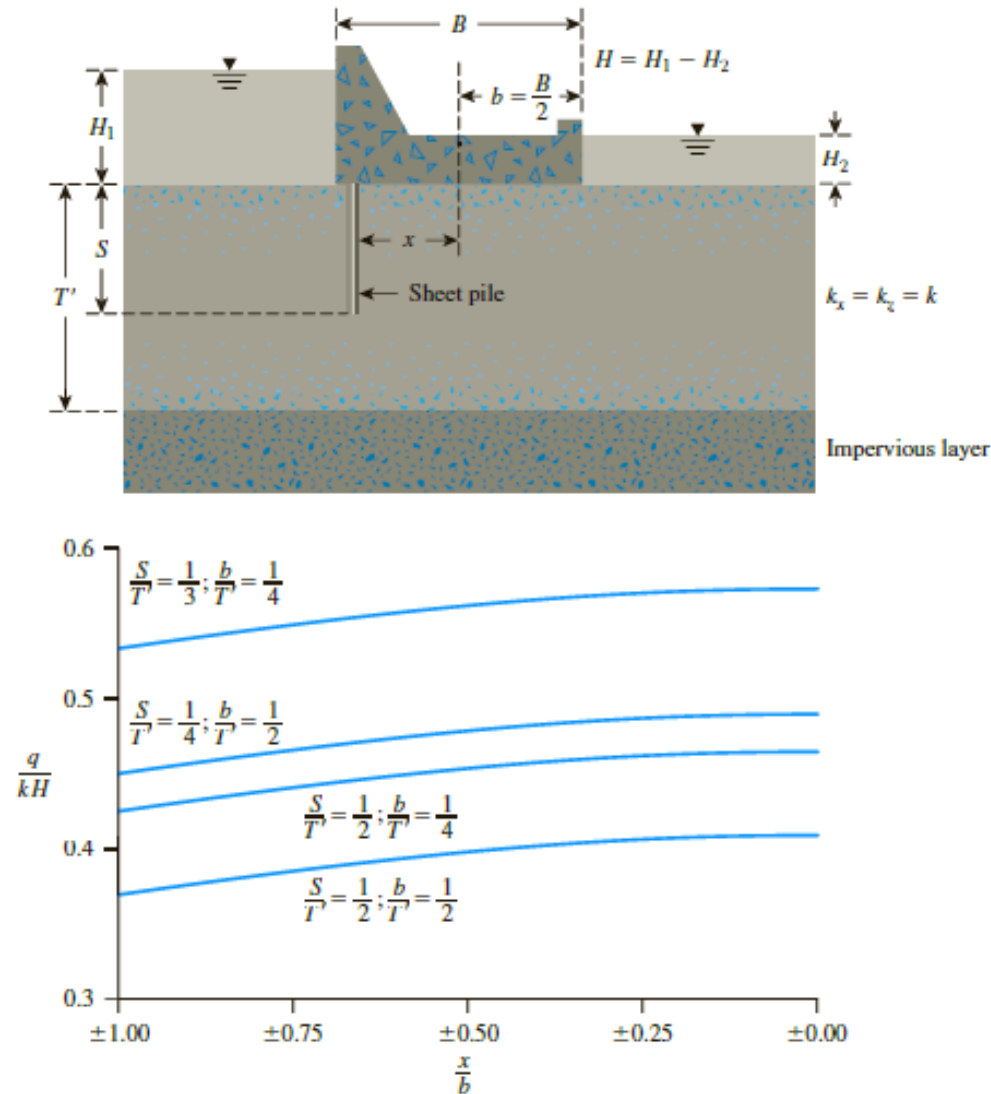

Figure 8.13 Seepage under a dam (After Harr, 1962. By permission of Dover Publications, Inc.)
Refer to Figure 8.13. Given; the width of the dam, $B = 6$ m; length of the dam, $L = 120$ m; $S = 3$ m; $T' = 6$ m; $x = 2.4$ m; and $H_1 - H_2 = 5$ m. If the hydraulic conductivity of the permeable layer is 0.008 cm/sec, estimate the seepage under the dam (Q) in m^3/day .
From Figure 8.13, for $b/T' = 0.5$, $S/T' = 0.5$, and $x/b = 0.8$, the value of $q/kH \approx 0.378$.